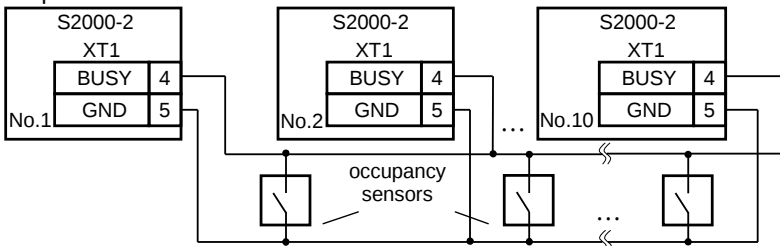

Figure 6. The Schematic for Connecting Controllers via Their BUSY Inputs/Outputs and Connecting Occupancy Sensors
4.3.2 If necessary, connect an occupancy sensor with normally open contact to the BUSY and GND terminals of the controller (see Figure 6). The number of the occupancy sensors connected in parallel is not limited.